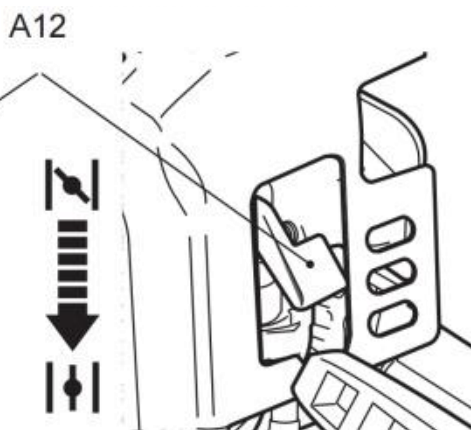

Fig. 30
2. Move the choke (A12) downward to OPEN position  to open the choke (Fig. 30). Move the choke to OPEN position for warm start and normal use.